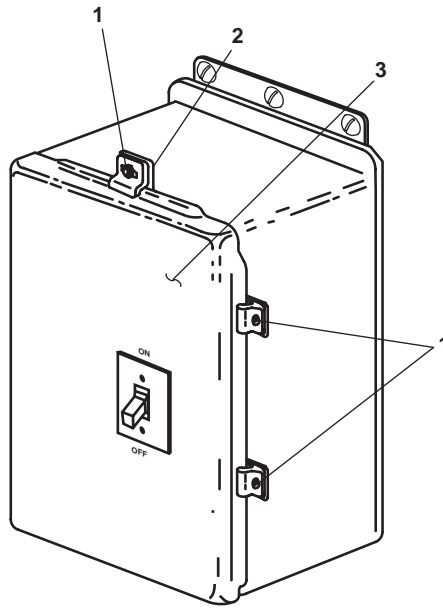

Figure 1. Motor Controller Type 5 (Typical)
1. Loosen the four screws (figure 1, item 1) until the clamps (figure 1, item 2) clear the lip of the door (figure 1, item 3).
2. OPEN the motor controller door (figure 1, item 3).
5. CLOSE the door (figure 1, item 3).
6. Rotate the clamp (figure 1, item 2) until it is over the lip of the door (figure 1, item 3).
7. Tighten the door screws (figure 1, item 1).